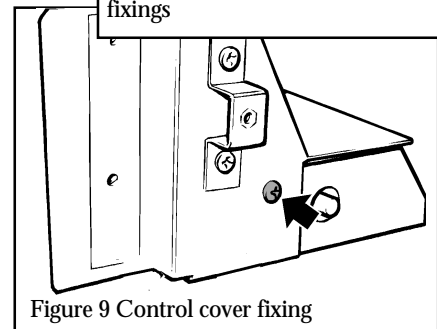

Figure 9 Control cover fixing
3. Detach the control unit cover by removing one screw (See figure 9).